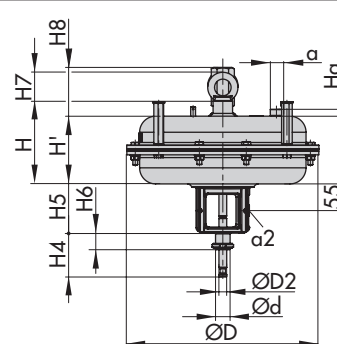

Fig. 20: Type 3277 with travel stop
1) Travel stop on both sides (Fig. 20)